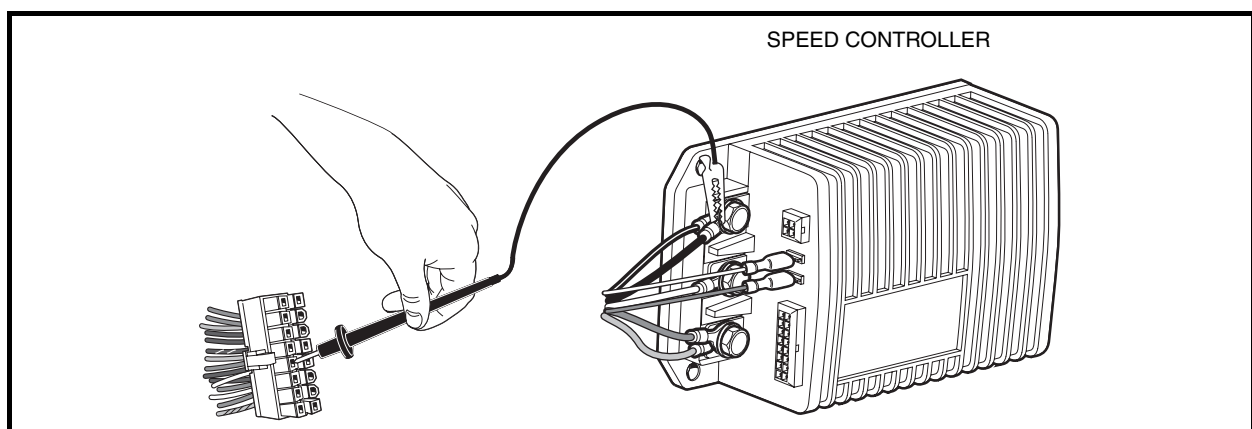

Figure 18-17 Pin 12 Test
4. Place a jumper wire with an alligator clip between the B– terminal of the speed controller (use alligator clip for this connection) and pin 12 (blue/white wire) of the 16-pin connector (**Figure 18-17, Page 18-28**). **See following CAUTION.**